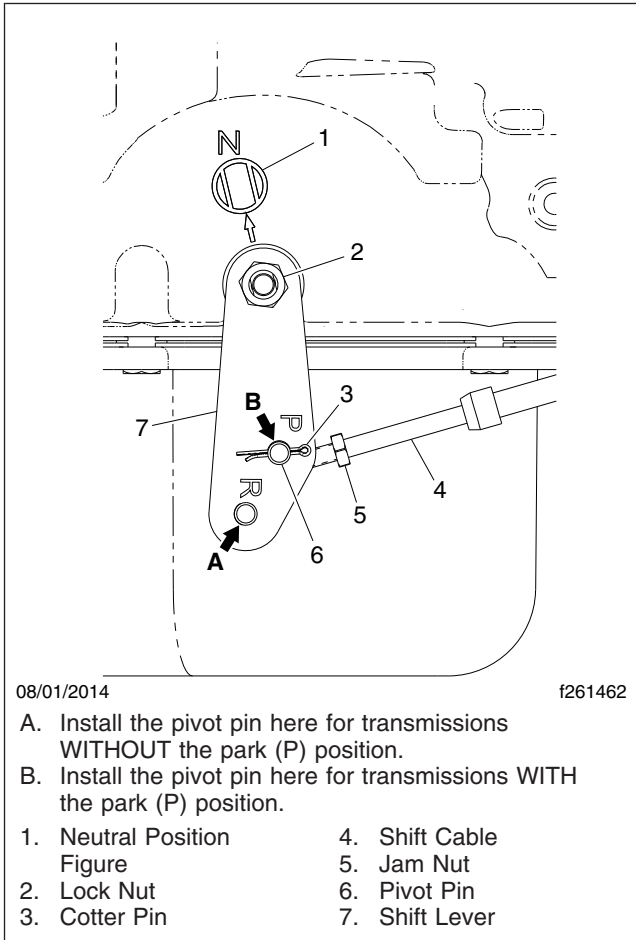

Fig. 5, Shift Lever Installed, Kit ORS 59565
20. Install the shift lever on the transmission, pointing down, as shown in **Fig. 5**, with the letters identifying the pivot holes facing outboard. Tighten the lock nut 15 to 20 lbf·ft (20 to 27 N·m).